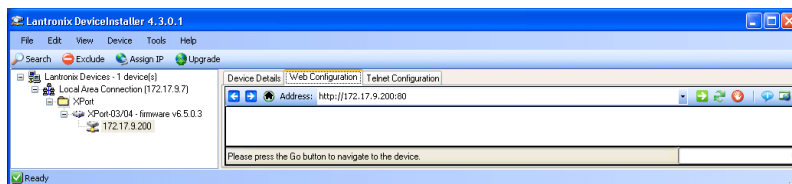

Figure 12: The Web Configuration Tab
1. Select the **Web Configuration** tab (see Figure 12).